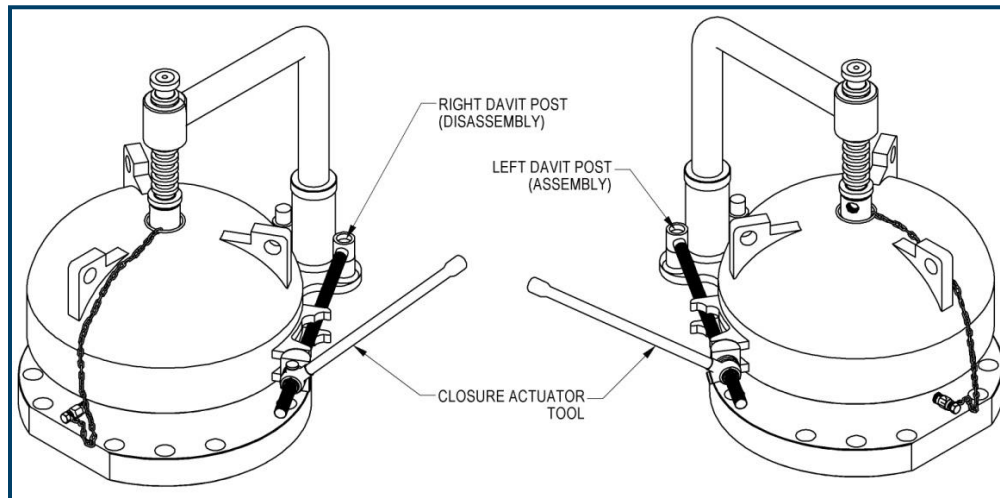
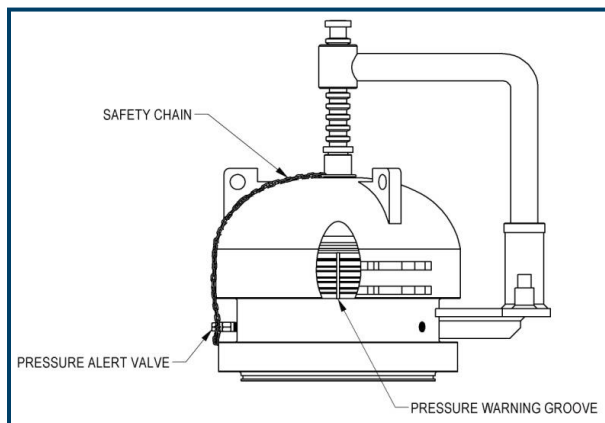
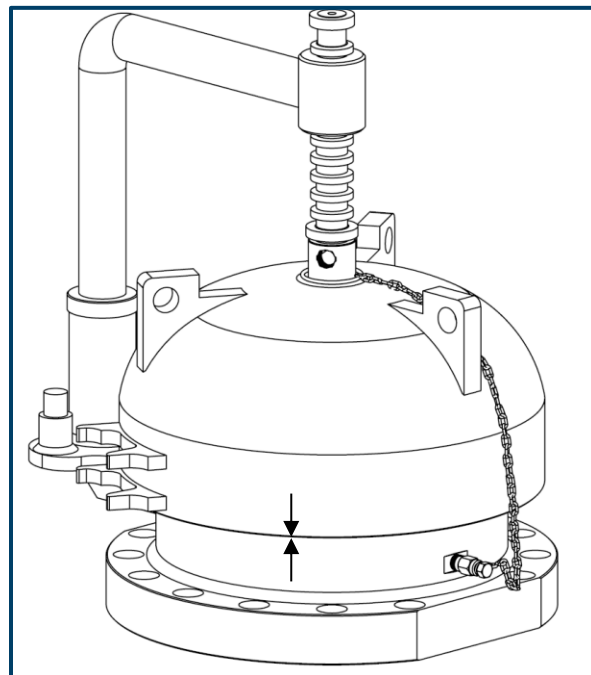

Figure 4: Closure Actuator Tool Positioning for Disassembling & Assembling of Entry Cap
Figure 5: Pressure Warning Groove Location on Entry Cap
Figure 6: Entry Cap Make-Up Arrows
7. Attach the closure actuator tool to the right davit post (see Figure 4) and use a ratcheting motion on the tool to slowly loosen the entry cap in a counterclockwise rotation. Observe the pressure warning groove area at the bottom of the threads on the entry cap (see Figure 5). If there is any media flowing from this area when the entry cap is loosened, immediately re-tighten the entry cap. Slowly open vent valve to vent remaining pressure and drain fluid from the Pig Valve main body cavity. If unable to vent all pressure from body cavity refer to Section 10.0 'Troubleshooting' in this manual.
14. Attach the closure actuator tool to the left davit post (see Figure 4) and use a ratcheting motion to slowly tighten the entry cap until metal-to-metal contact is made as indicated by alignment of the make-up arrows (see Figure 6).
7. Attach the closure actuator tool to the right davit post (see Figure 4) and use a ratcheting motion on the tool to slowly loosen the entry cap in a counterclockwise rotation. Observe the pressure warning groove area at the bottom of the threads on the entry cap (see Figure 5). If there is any media flowing from this area when the entry cap is loosened, immediately re-tighten the entry cap. Slowly open vent/drain valve to vent remaining pressure and drain fluid from Pig Valve main body cavity. If unable to vent all pressure from body cavity refer to Section 10.0 ‘Troubleshooting’ in this manual.